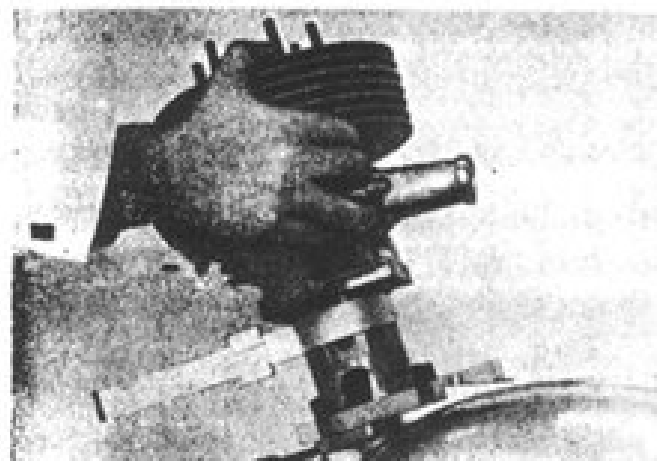

Fig. 8. Setting the cylinder, HX-II-3 motorcycle.
7. Put the fork 11 (Set No. 2) under the piston, oil the cylinder face and put the cylinder on the piston, moving the ring compressor down (Fig. 8).